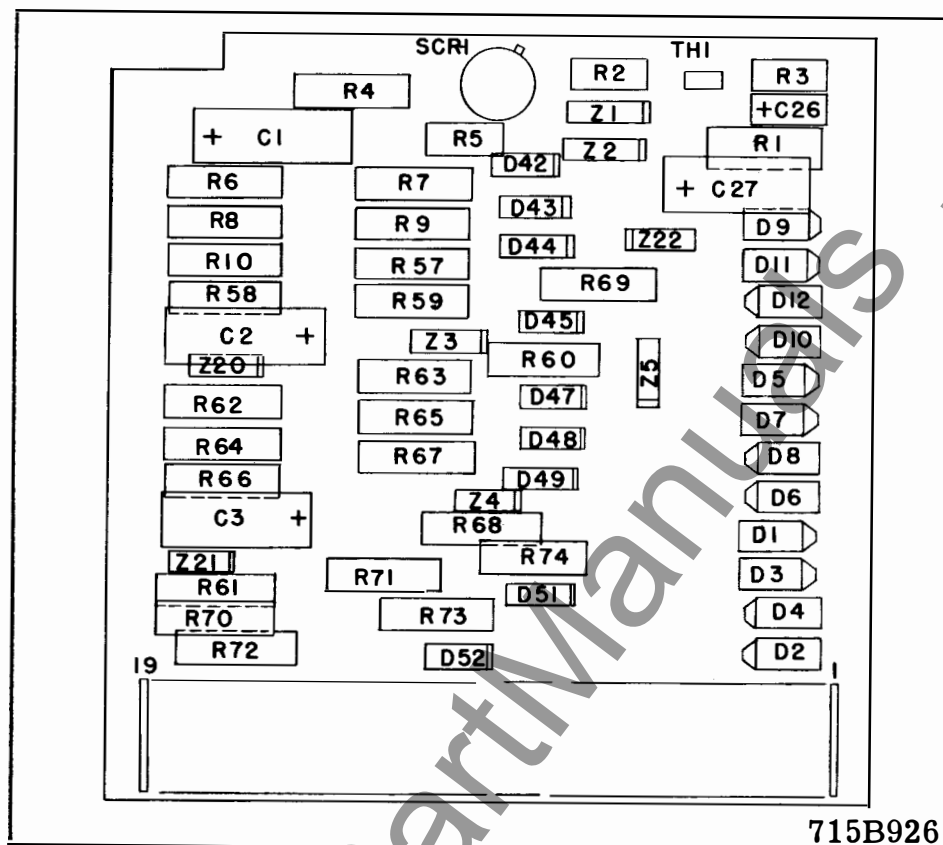

Fig. 1. Component Location on Phase Time Delay Board.
* amplifier. See Figure 1 for component location and board layout.